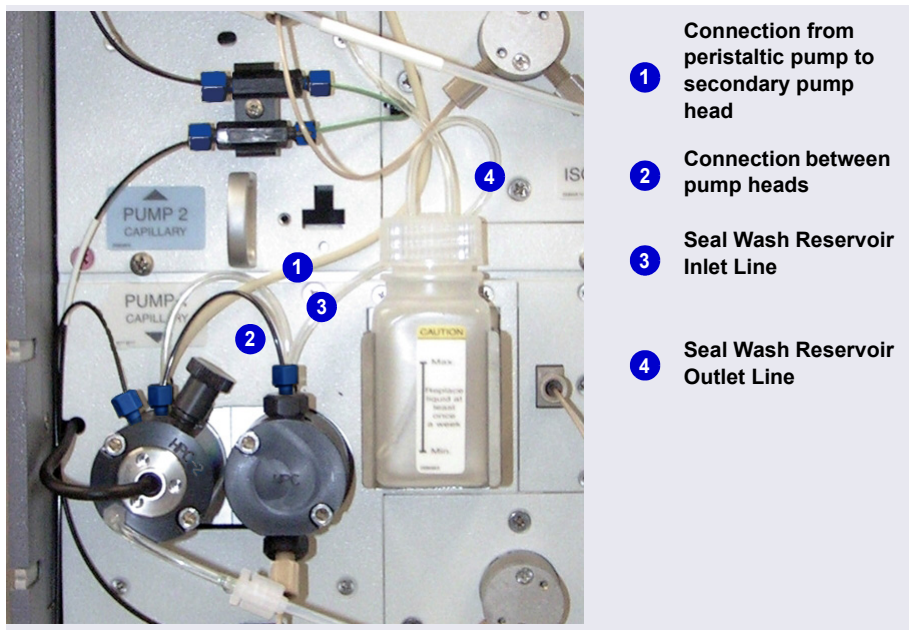

Figure 4-3. Piston Seal Wash Connections to Pump 1
1. Note the tubing connected from the peristaltic pump to the seal wash tube on the secondary pump head on pump 1 (see Figure 4-3, item ①). Disconnect this tubing from the pump head and connect it to the seal wash tube on the secondary pump head on pump 2.
2. Disconnect the short piece of tubing between the primary and secondary pump heads on pump 1 (see Figure 4-3, item ②). Connect this tubing to the pump heads on pump 2.
3. Disconnect the seal wash reservoir inlet line from the primary pump head on pump 1 (see Figure 4-3, item ③). Connect the inlet line to the primary pump head on pump 2.